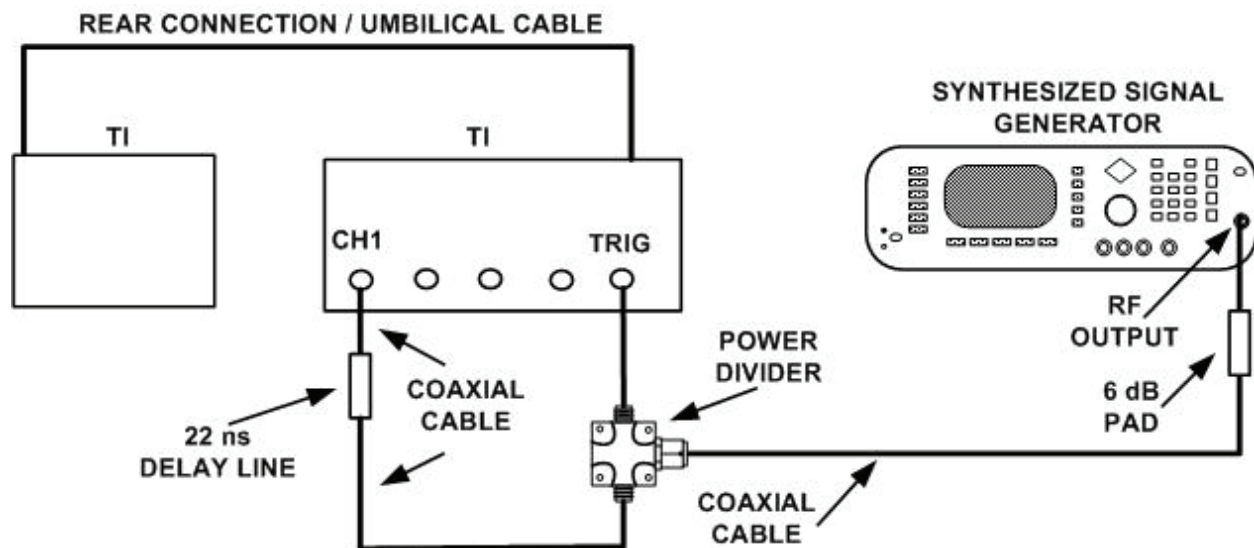

Figure 8. Trigger sensitivity jitter - equipment setup.
(24) Slowly adjust the **RPG** control cw until the trigger level just stops triggering. Record the trigger level setting (_____). This value is V_{pos} .
(25) Reset the trigger level to 0.000 v and slowly adjust the **RPG** control ccw until trigger level just stops triggering. Record the trigger level setting (_____). This value is V_{neg} .
(26) Calculate the sensitivity. $V_{sense} = 200 \text{ mV} - (V_{pos} - V_{neg})$. The value will be $< 200 \text{ mV}$.
(27) Set **Trigger Level = 0.000V**. Set delay to 35 ns.
(28) Connect equipment as shown in figure 8.
The length of the coaxial cables being used to make connections in figure 8 must be measured, calculated, and added to the 22 ns delay line setting in (30) above. Example: Total cable length = 6 feet. $6' \times 1.6 \text{ ns} = 9.6 \text{ ns}$. ($22 \text{ ns} + 9.6 \text{ ns} = 31.6 \text{ ns}$).
(31) Slightly adjust synthesized signal generator frequency and select the trigger point that does not expand or contract with frequency of synthesized signal generator. (Press **Display** key and set **Display Mode** to **Persist** is highlighted. Pressing the **ENTRY** $\uparrow \Rightarrow$ pushbutton until **Persistence = Infinite** will help find the trigger.
(32) Press **Delta V** key. Set **V Markers On** and press **Preset Levels** key until **50%-50%** is highlighted. Press the **Auto Level Set** key.
(33) Press **Delta t** key. Set **T Markers On** and set the start marker on the 50% point on the positive slope of the selected trigger point. Record **Start Position** point (_____).
(34) Press **Timebase** and **TIME/DIV** keys and set **Sweep Speed = 200 ps/div**, and set **DELAY** to **Delay = the value of the START MARKER**.
(35) Adjust the delay of the TI to center the positive edge of the waveform on the display. Record the reading (**Delay = _____ ns**).
(36) Press **Timebase** and **TIME/DIV** key and set **Sweep Speed = 10.0 ps/div**. Press **Channels** key and set **VOLTS/DIV** to **Sensitivity = 5 mV/div**.
(37) Press **More** and **Histogram** keys. Press **Window/Acquire/Results** key until **Window** is highlighted.
(38) Press **Time/Voltage Histogram** key until **Time** is highlighted and set **WINDOW MARKERS1** to -0.25 mV and **WINDOW MARKERS2** to +0.25 mV.
(39) Press **Window/Acquire /Results** key until **Acquire** is highlighted and enter number of samples as **1000**. Press **Start Acquiring** key. Wait until acquire cycle is 100% complete.
(40) Press **Window/Acquire/Results** key until **Results** is highlighted. Press the **Sigma** key. The sigma value will be $< 2.5 \text{ ps} + (5\text{E-}5 \times \text{delay setting from value of step 35 above})$. If the TI does not meet the jitter specification, perform **SECTION IV**, paragraph 23, and repeat (30) through (40) above for delay setting of 20.5 ns. Example with a delay setting of 20.5 ns: $< 2.5 \text{ ps} + [(5 \times 10^{-5}) \times (20.5 \times 10^{-9})] = 2.5 \text{ ps} + 1.025 \text{ ps} < 3.525 \text{ ps}$.